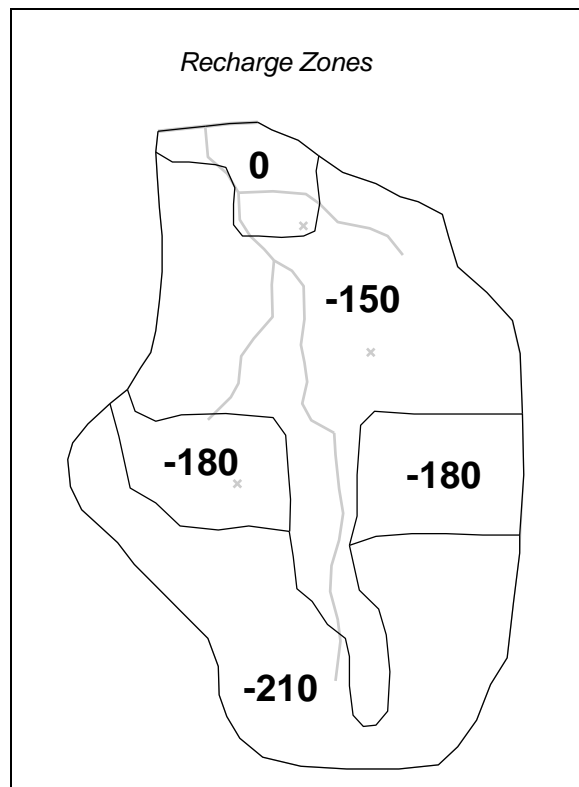

Figure 2 Recharge zones and parameter key values
Next, it is necessary to set up the recharge zones. The recharge polygons are shown in Figure 2. The five polygons will be used to define four parameter zones. The polygon at the top end of the model is relatively small; it is isolated from the majority of the observation wells, and it is down gradient from the wells. As a result, it is not a good candidate for parameter estimation. This tutorial will fix the recharge in this zone at zero.
2. Double-click on each of the polygons shown in Figure 2 to open the *Attribute Table* dialog.